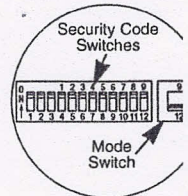

Fig. 2
2. Slide mode switch to either 9 or 12 to match number of security code switches on your existing single button remote controller or garage door opener receiver (Fig. 2).